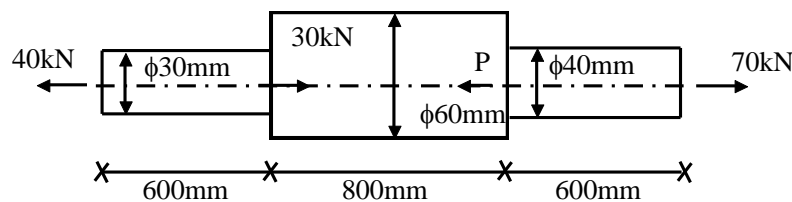

Fig. 1 (a)
1. a) A circular steel bar is subjected to various forces as shown in Fig. 1. a) Determine the total elongation in the bar. 7